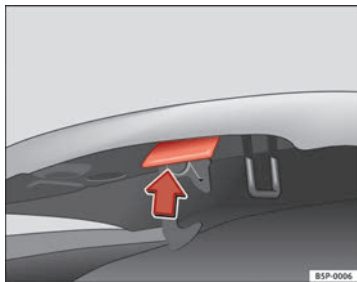

Fig. 180 Release catch under the bonnet
- Press the release catch under the bonnet upwards ⇒ Fig. 180. This will release the arrester hook under the bonnet.